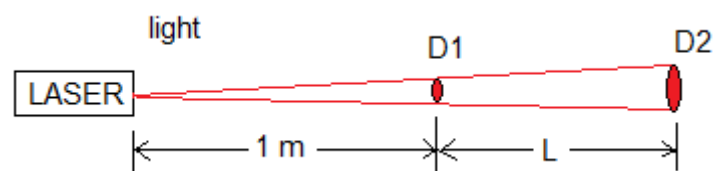

Figure 6: Exp. 3
Setup is shown in Figure 6. The divergence (θ) of a beam can be calculated if one knows the beam diameter at two separate points far from any focus ($D1$, $D2$), and the distance (L) between these points (known as far field measurement). Measure $D1$, $D2$ on the millimetric paper and distance L to obtain θ via basic trigonometry. Note that the distance L must be at least 2 m. Fill Table 3.